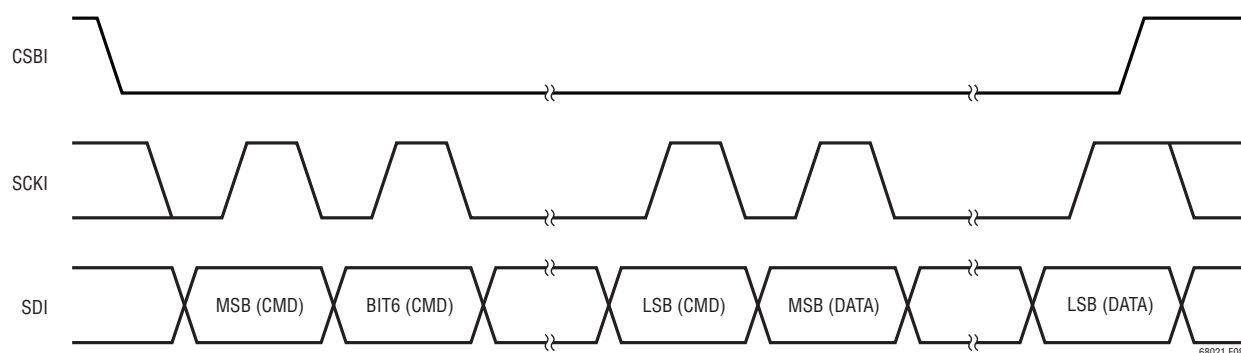
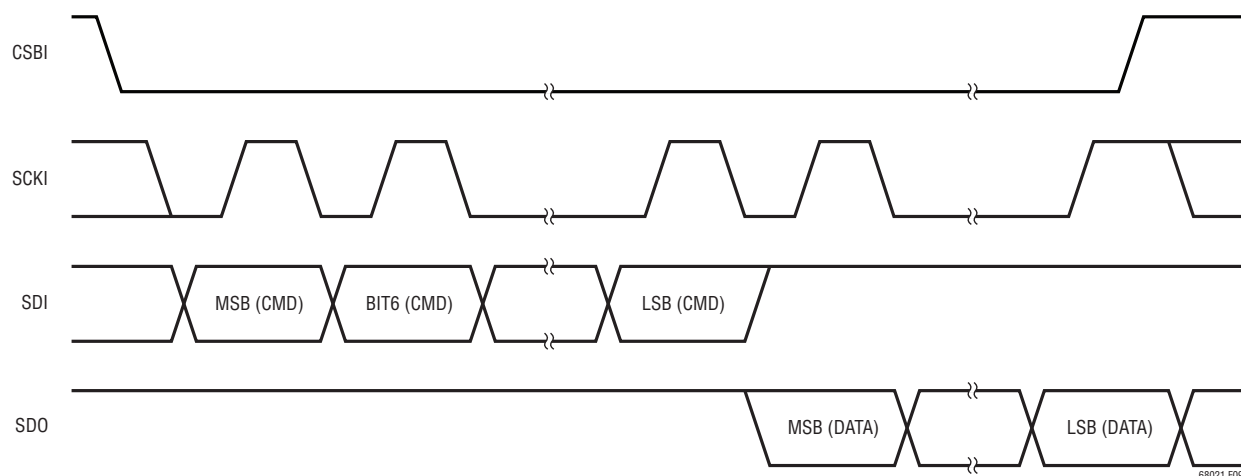

Figure 8. Transmission Format (Write)
Figure 9. Transmission Format (Read)
**Data Transfers:** Every byte consists of 8 bits. Bytes are transferred with the most significant bit (MSB) first. On a write, the data value on SDI is latched into the device on the rising edge of SCKI (Figure 8). Similarly, on a read, the data value output on SDO is valid during the rising edge of SCKI and transitions on the falling edge of SCKI (Figure 9).